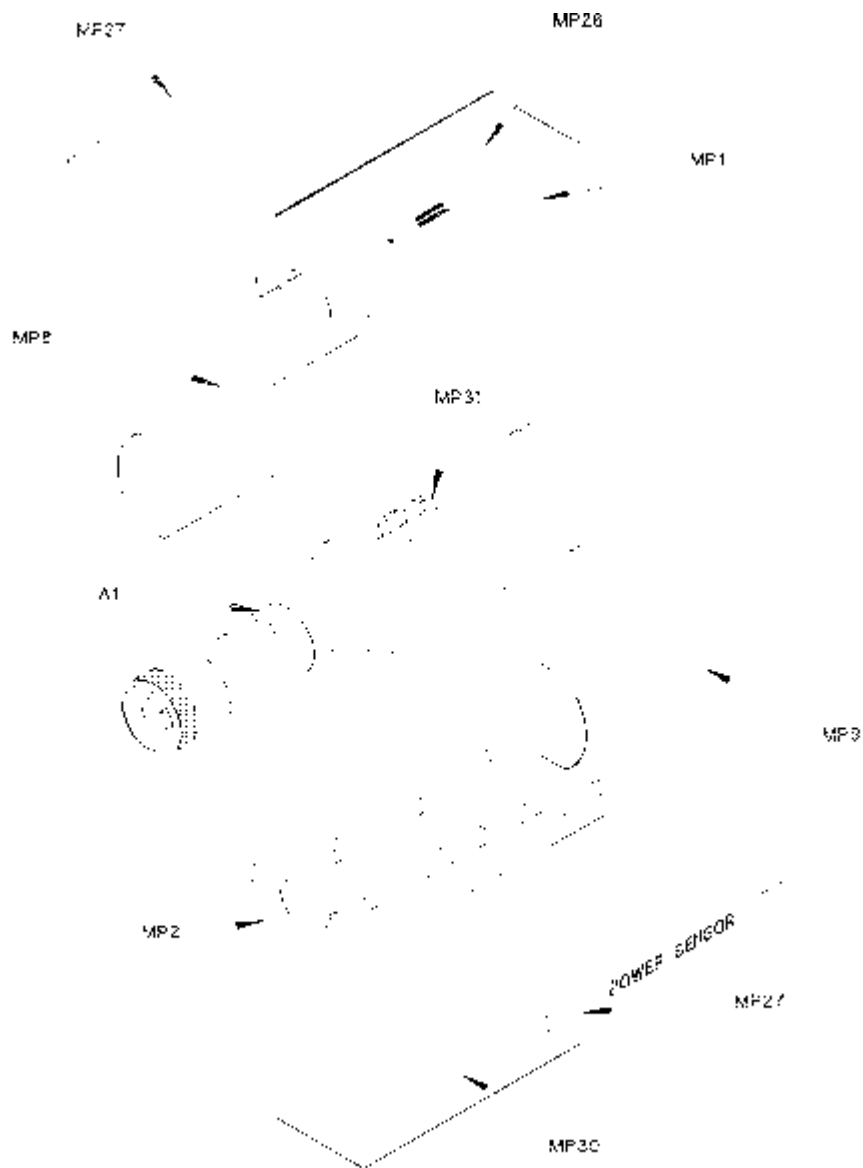

Figure 25 Illustrated Parts Break down
Figure 25 is the illustrated parts breakdown (IPB) that identifies all of the replaceable parts. To order a part, quote the Agilent part number, specify the quantity required, and address the order to the nearest Agilent office.
1. Replace the magnetic shields and the plastic shells as shown in Figure 25. Snap the plastic shells together.